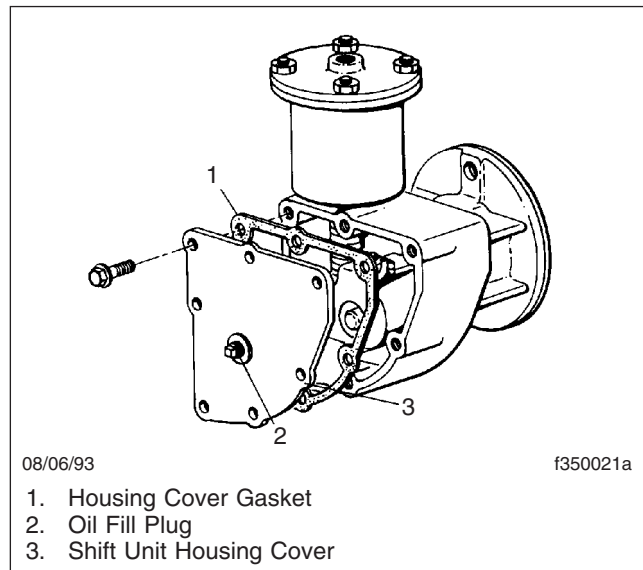

Fig. 6, Two-Speed-Axle Shift Unit
1. Remove the shift unit housing cover; see **Fig. 6**. Drain and discard the old lubricant. Discard the housing cover gasket.